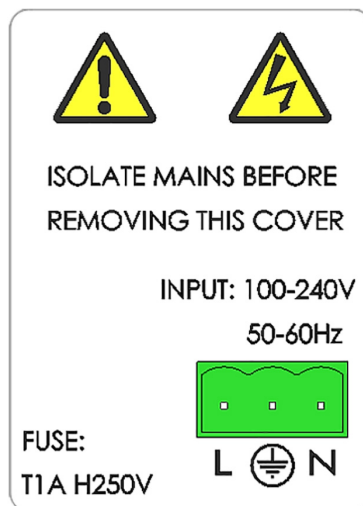

Fig. 4-4 Sensor mains supply label
- 2) Note the label on the power supply cover (see Fig. 4-4 below).